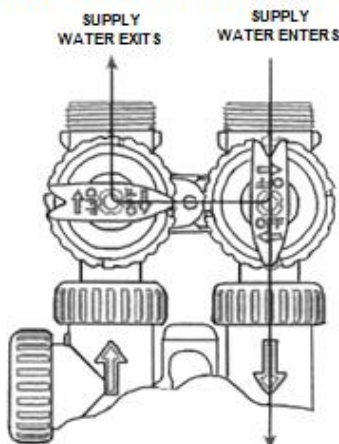

Figure 3
3. **Diagnostic Position:** The inlet handle points toward the control valve and the outlet handle points to the center of bypass valve. Untreated supply water is allowed to flow to the system and to the building, while not allowing water to exit from the system to the building. **(Fig. 3)** This allows the service technician to draw brine and perform other tests without the test water going to the building.